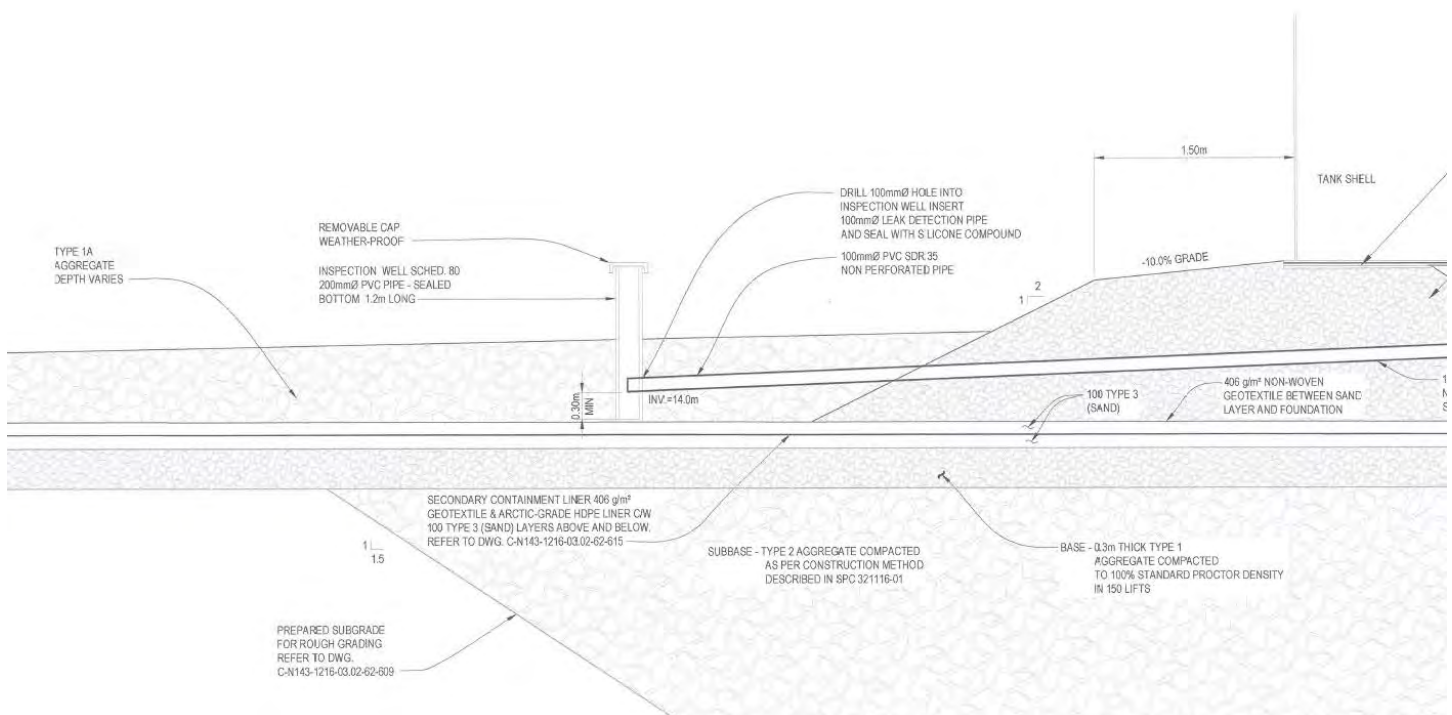

Figure 7: An inspection well around ND tanks (excerpt from drawing C-N143-121603.02-62-602)
The leak detection systems for the ND storage tanks are considered key spill prevention components of the ND system. The leak detection systems include a network of five (5) 100 mm diameter wiping pipes located within a lined area below each tank, which are in turn connected to inspection wells via non-wiping pipes. Each tank has five (5) inspection wells for monitoring purposes (See Figure 7).